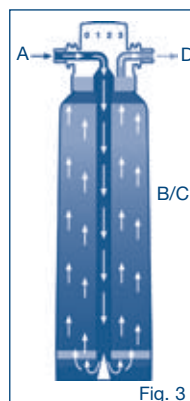

Fig. 3
The natural water (A) flows to the filter cartridge (Fig. 3). In area (B), particles are removed by means of a pre-filter while unpleasant odours and tastes, e.g. chlorine, are removed by active carbon (C).
① INFORMATION